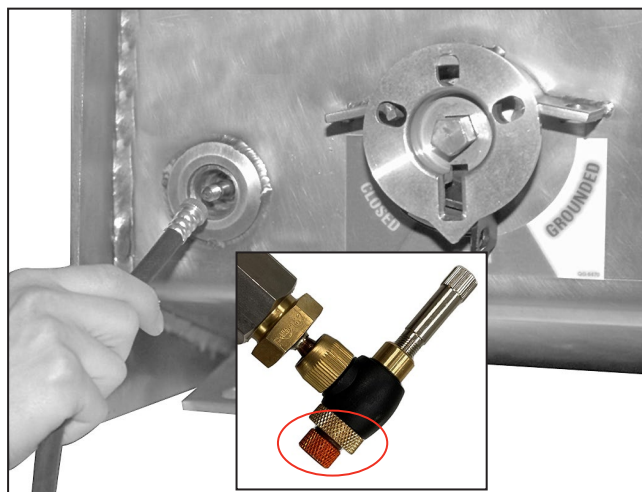

Figure 4. Bleed the fill hose for several seconds to fill the hose before connecting to the Schrader valve extension.
STEP 3. Bleed the fill hose on the refill tank by cracking open the cylinder valve slightly for several seconds to allow the SF₆ gas to fill the hose before connecting to the Schrader valve and extension. See Figures 4 and 5.
Note: Step 4 on page 8 includes further operating instructions for the cylinder and regulator. Close the valve and connect the chuck of the hose to the end of the valve extension. See Figures 4 and 5.